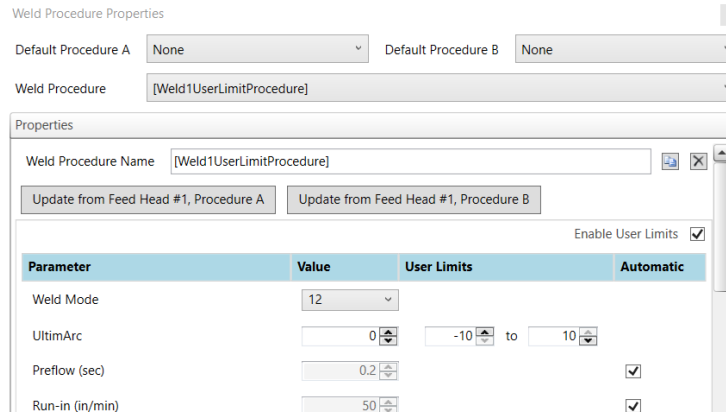

Figure 5.6 Weld Procedure Saved in the Database
2. Edit the *Weld Procedure Name* field and enclose the name in square brackets (Figure 5.6).